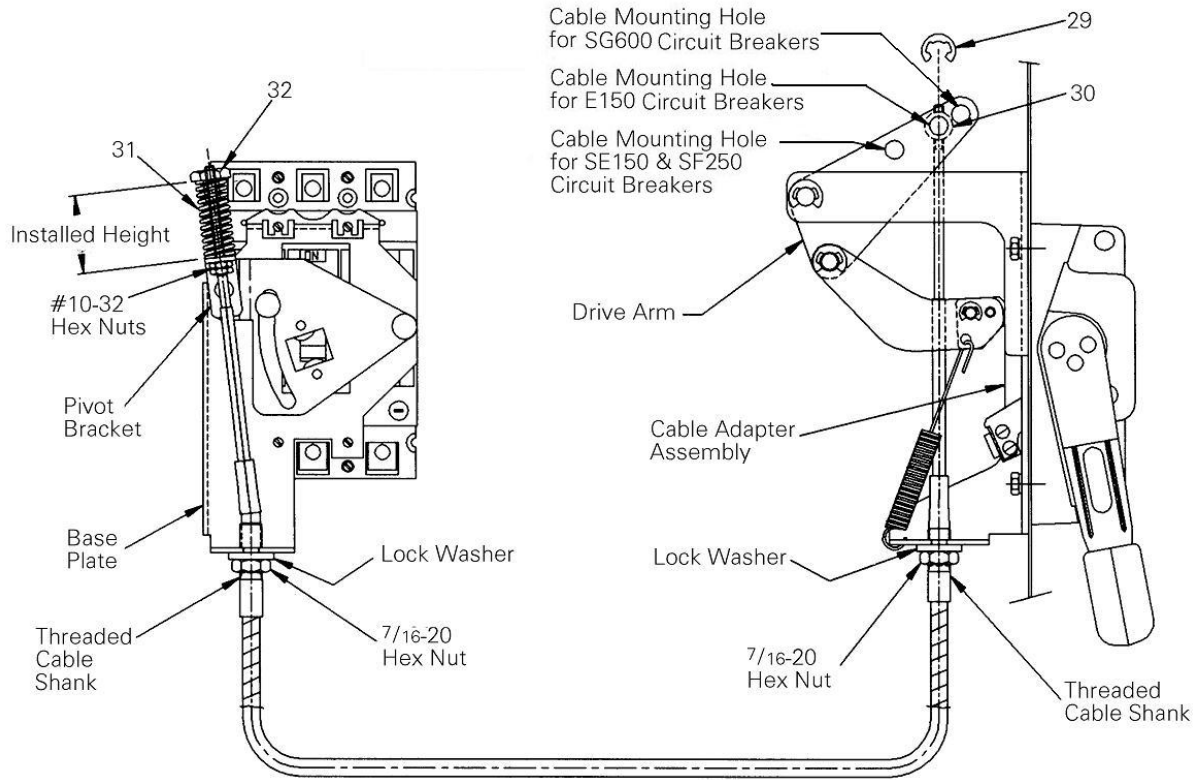

Figure 7. Cable Installation
2. Place the operating handle in the OFF position. Position the cable behind the handle drive arm linkage. Insert the groove of the cable (middle of the cable shank threads) into the slot at the bottom of the cable operator assembly. Tighten the 7/16" hex nut against the cable adapter assembly until it is snug. Insert the cable guide pin [30] into the proper mounting hole in the drive arm, as shown in Figure 7. Snap an E-ring [29] into the groove of the guide pin [30].